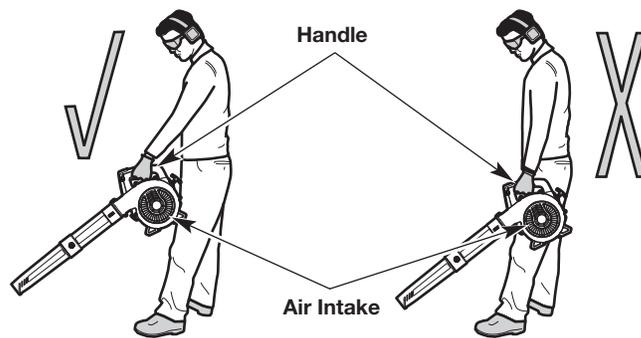

Fig. 15
- Stand in the operating position (Fig. 15). Stand up straight. Do not bend over.
- Hold the unit in front of, and away from, your body (Fig. 15).
WARNING: To prevent serious personal injury or damage to the unit, **DO NOT** hold the unit at your side (Fig. 15). The engine may be extremely hot. **DO NOT** block the air intake.